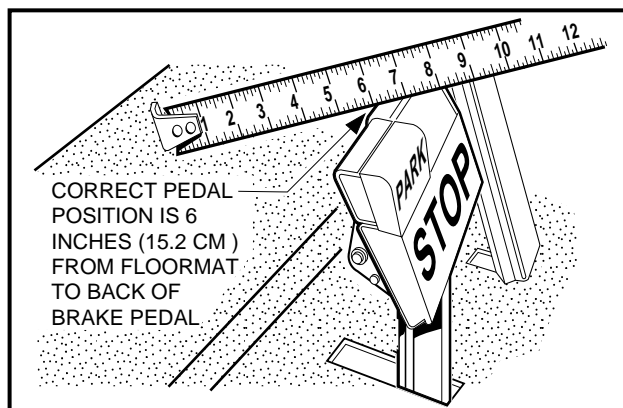

Figure 5-1 Pedal Position
4. Adjust brake pedal height to 6 inches (15.2 cm) (**Figure 5-1, Page 5-2**).